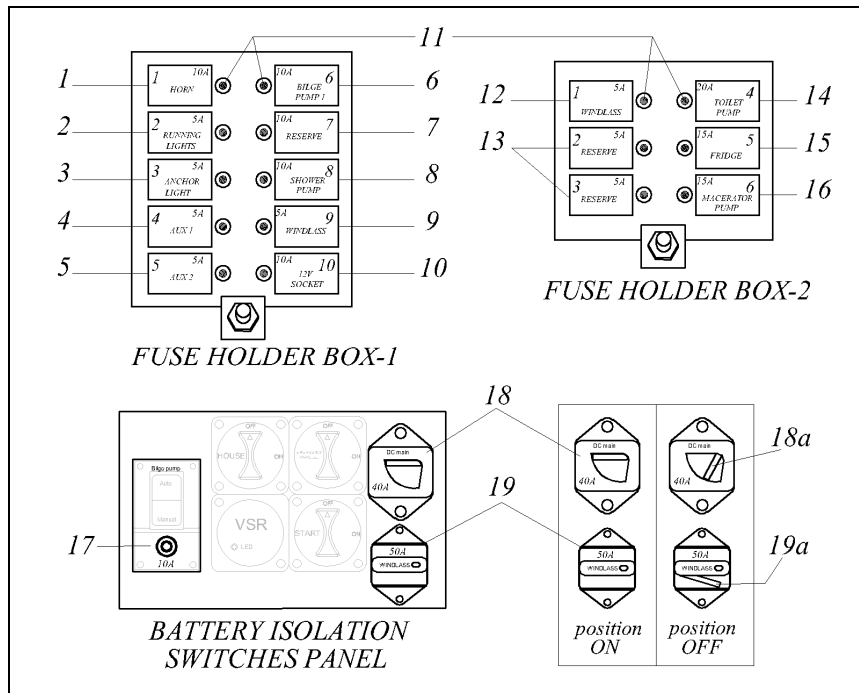

Fig.19
The fuse holder box-1 and fuse holder box-2 (Fig.19) are located inside the steering console. All fuses in these boxes are standardized blade fuses.
The fuses on the Battery isolation switches panel (Fig.19) are resettable. They can be restarted after being triggered. To restart the fuse for bilge pump (17), just press the button on it. The thermal circuit breaker (18) protects the entire electrical circuit of the boat from short circuits. To restart the thermal circuit breaker you need to raise the lever switch (18a) to a horizontal position. For more information about the windlass circuit breaker (19), see the “ANCHORING” section of this manual. To restart the windlass circuit breaker you need to raise the lever switch (19a) to a horizontal position.